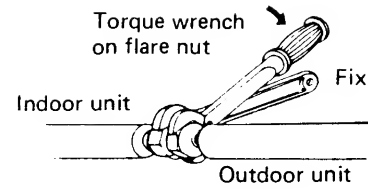

Fig. 28
2. Flare nut on large dia. pipe should be torqued to 430 ~ 470 lbs. in. (SAP 121KC) or 300 ~ 340 lb. in (SAP 91KC). Flare nut small dia. pipe should be torqued to 130 ~ 170 lbs. in. Fig. 28